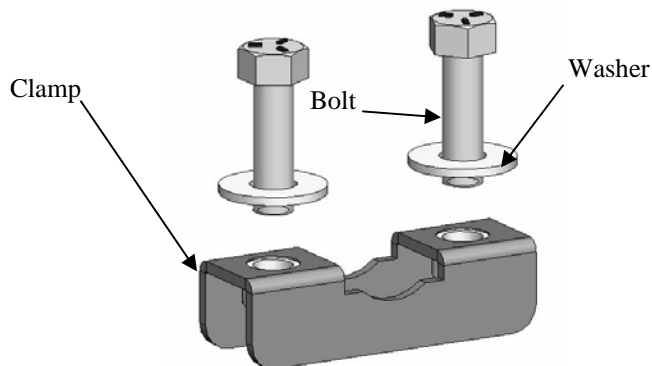
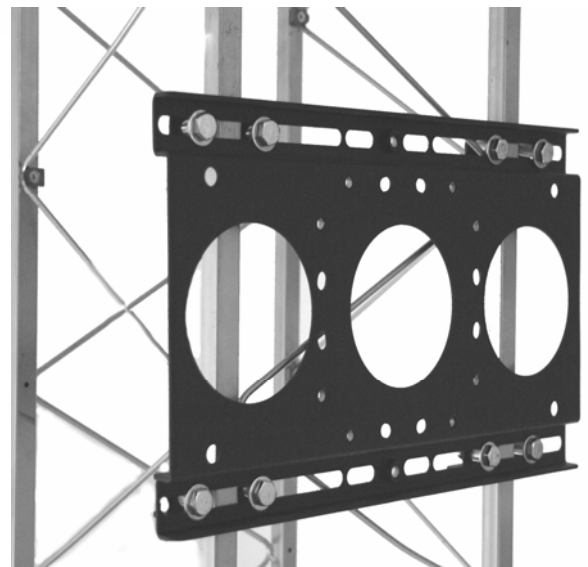

Figure 1. TPK-3
Figure 2. TPK-3 Truss Mount Example
1. Place clamp (see Figure 1) on truss or pole (see Figure 2).